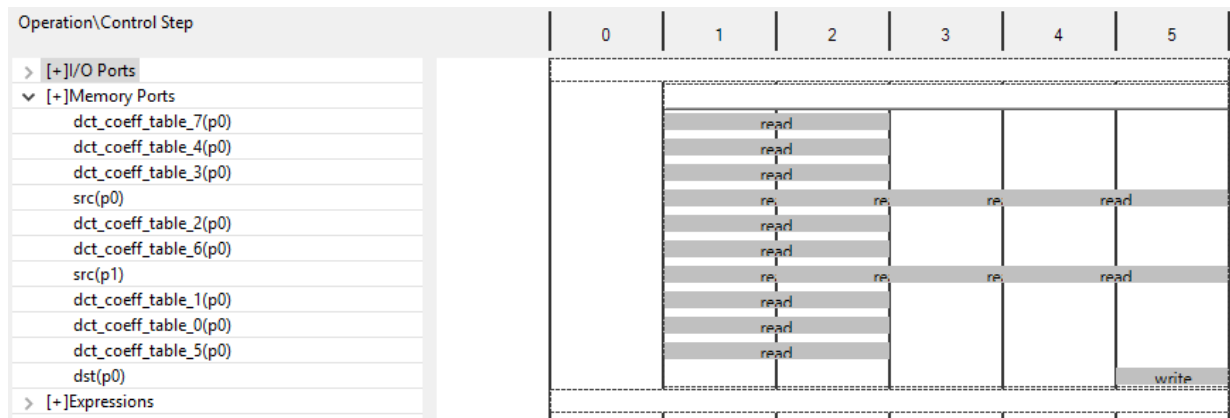

Figure 6-23: Resource Sharing of Memory Ports in DCT\_1d
16. Expand the Memory Ports, as shown in Figure 6-23.
The rows list the resources in the design. In Figure 6-23, the memory resources are expanded.
Figure 6-23 shows the memory accesses on block RAM `src` are being used to the maximum in every clock cycle. (At most, a block RAM can be dual-port and both ports are being used). This is a good indication the design may be bandwidth-limited by the memory resource. To determine if this really is the case, you can examine further.